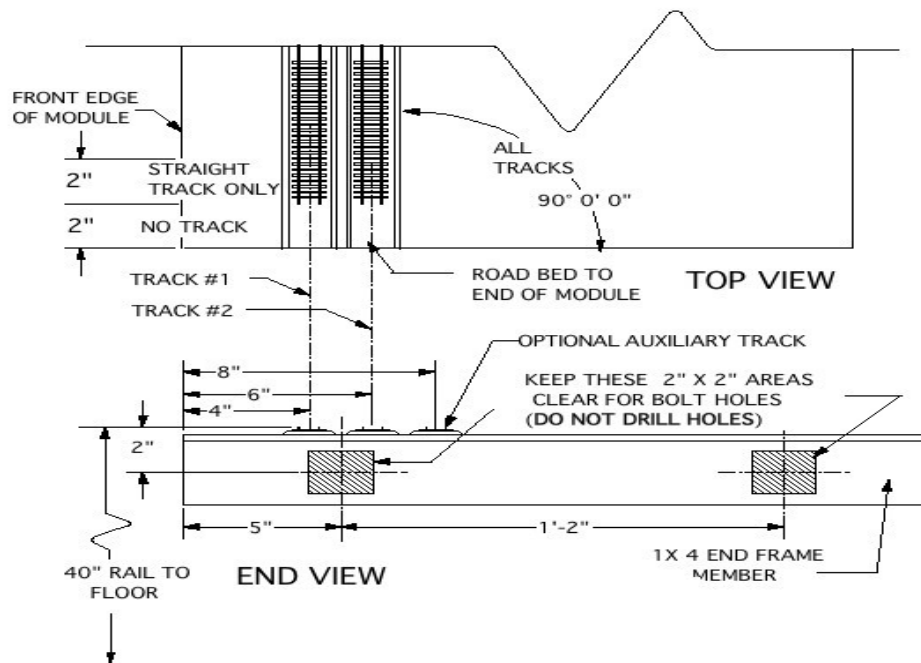

Figure 5: BASIC MODULE TRACK ARRANGEMENT
1. Bolt holes are to be located by a club-supplied fixture and drilled by a Standards Committee member. See Figure 5 for approximate locations. The area in which the holes will be drilled must provide clearance for a 5/16 NC tee nut and fender washer.
2. The modules should be aligned and clamped securely. The 5/16" bolt holes should be drill through the end plates at the locations indicated in Figure 5. In addition, two 1/16" pilot holes should be drilled. These should be 2" inside from the bolt holes.
- II. **Main Line Track** - Each module must have, as a minimum, two mainline tracks constructed according to these standards that will be powered and controlled by the club power supplies at all shows. The requirements for locating the main line tracks are illustrated in figures 5 and 6. All other tracks are known as Optional Auxiliary Tracks (OAT). The standards for main line track also apply to the OAT except as specified in section III.
- B. Location of Centerline (Figure 5)